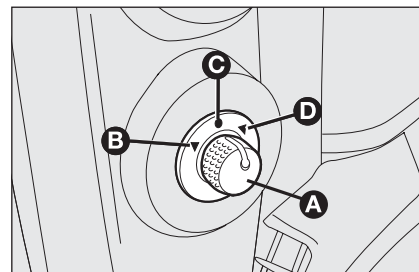

fig. 32
- ☐ use the diverter **A**-fig. 32 to select the desired mirror (right or left hand):